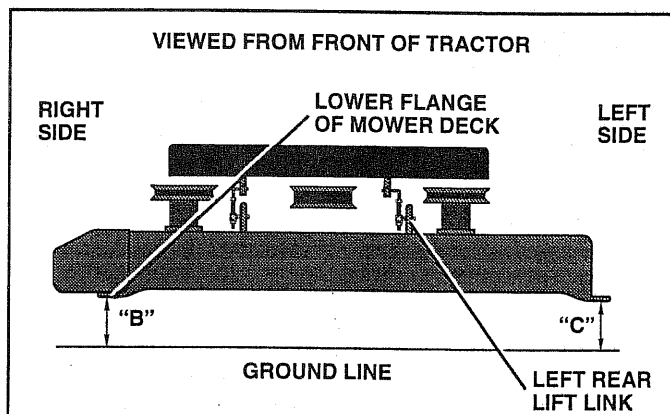

FIG. 21
- Place attachment height adjustment knob in position "3" (See Fig. 21).
SIDE-TO-SIDE ADJUSTMENT (See Figs. 21 and 22)